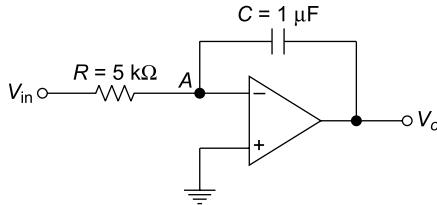

Fig. 5.39 Circuit of Ex. 5.19
- 5.19** Figure 5.39 shows an integrator circuit. Find out the output voltage when input voltage is $2 \sin 1000\pi t$ and show the output voltage waveform.